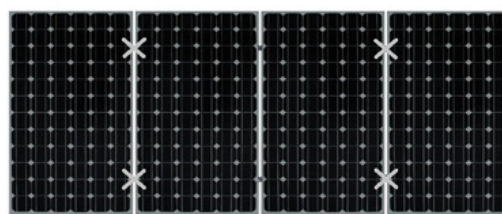

Figure 1
- When there is an even number of PV Modules in each row, install the grounding clips at the positions marked X in Figure 1, where the number of Grounding Clips = number of PV Modules. Figure shows 4 x PV Modules requiring 4 x grounding clips.